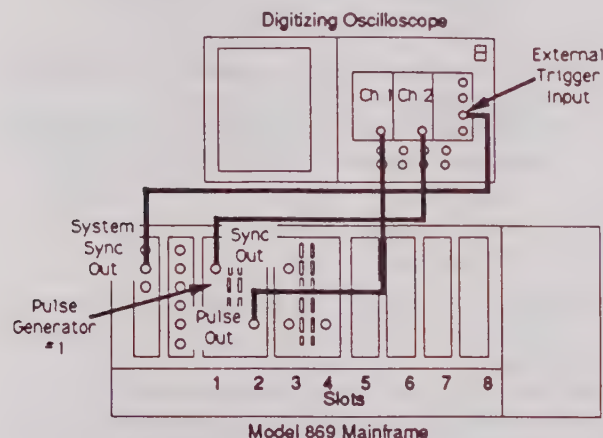

Figure 2-16. Master/Slave Mode Hookup #1
- Interconnect the required test equipment as shown in figure 2-16.